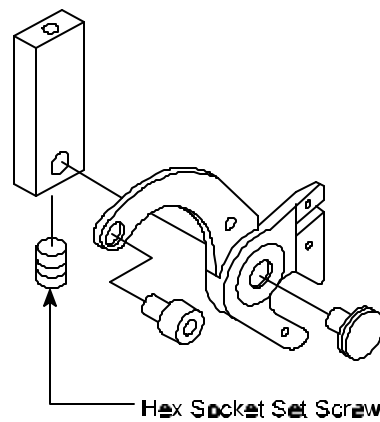

Figure 3
- Using a 1.5 mm Allen Wrench, **loosen** hex socket set screw. See *Figure 3*.